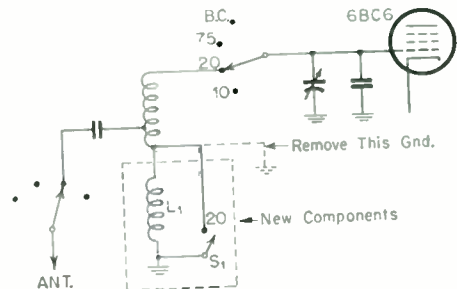

Fig. 1 — Circuit showing modifications which permit 40-meter operation with the Tri-band converter.
- 4) The new coil,  $L_1$  in Fig. 1, consists of approximately 25 turns of No. 26 enameled wire wound on a  $\frac{5}{8}$  by  $\frac{3}{16}$ -inch powdered iron coil form. An adjustment of the number of turns will be necessary if an air core is employed or because of variations in permeabilities of iron cores. Don't forget to have the antenna connected when resonating the circuit.  $L_1$  is soldered between the grounded and floating brackets of the 20-meter r.f. coil.